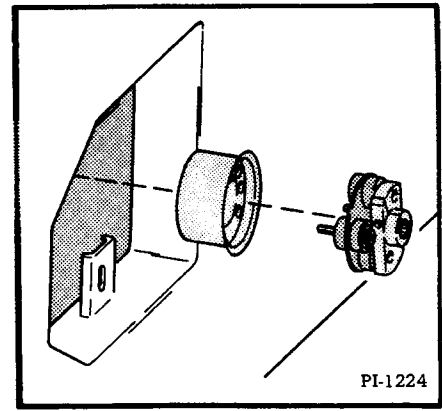

Fig. 38 Removing Coupling & Adapter
- (2) Remove the pump coupling and pump drive adapter from the machine (Fig. 38).